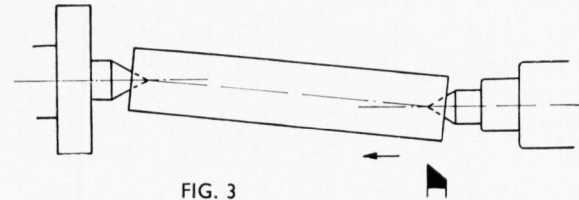

FIG. 3
(2) The method shown in fig. 3 is by off-setting the tailstock centre. The drawback is that the centre points are not on the axis of the work, so that the centres are subjected to uneven wear and strain.